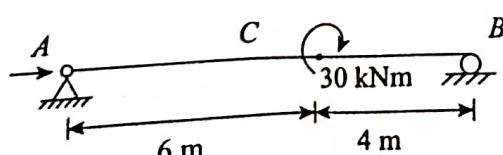

Figure 6.18
- 6.4 For the beam loaded as shown in Fig. 6.18, at 2 m from A draw SF and BM diagrams. Indicate maximum BM and its position.